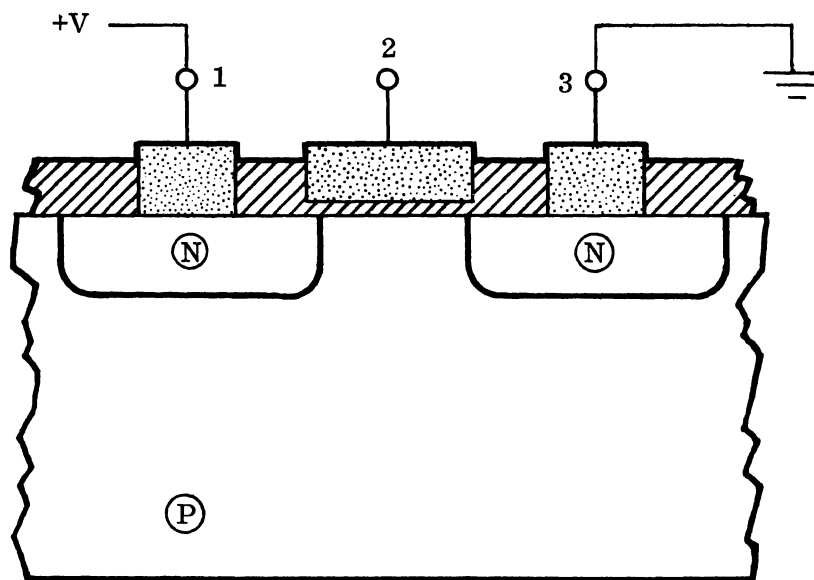

FIGURE 1
1. Which of the four basic types of MOSFET is shown in figure 1?